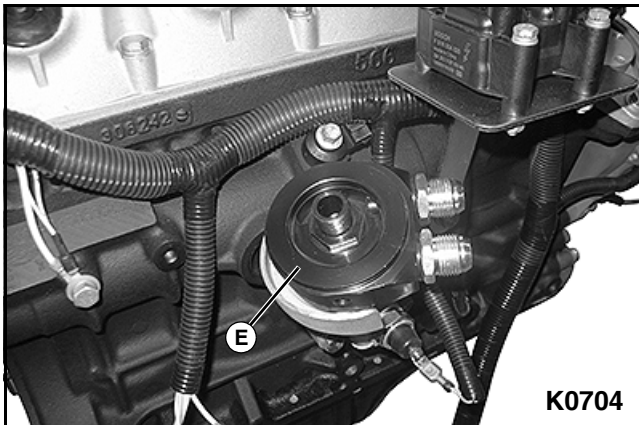

Figure 5-6
- Wipe the oil filter installation surface (E) clean with a dry cloth. Inspect the installation surface for damage. **See Figure 5-6.**